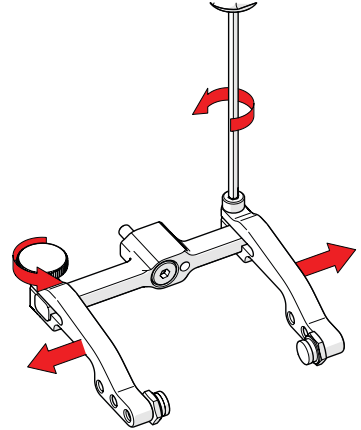

Fig. 69 - Remove probe holder arms
3. Loosen the probe holder arm adjustment knob and the arm clamp screw. Slide the probe holder arms off the yoke (Fig. 69).